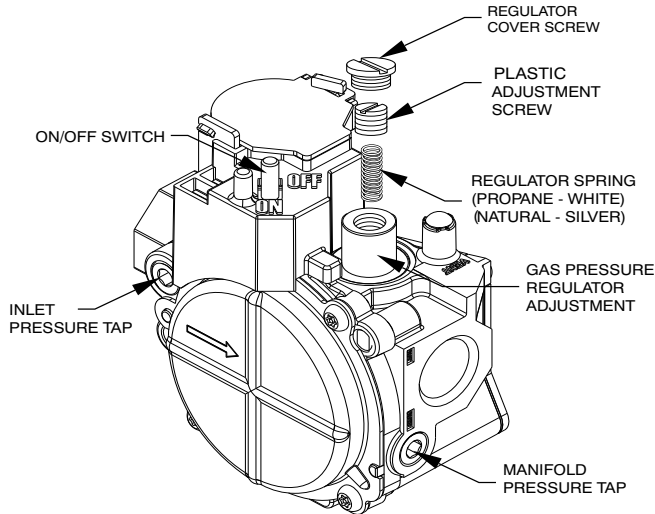

Fig. 12 – Single-Stage Gas Valve
1. Remove regulator cover screw over plastic adjustment screw on gas valve (See Fig. 12).
2. Turn plastic adjustment screw clockwise to increase gas input, or turn plastic adjustment screw counterclockwise to decrease input (See Fig. 12). Manifold pressure must be between 3.2 and 3.8 IN. W.C.
3. Replace regulator cover screw on gas valve (See Fig. 12).
With control access panel (see Fig. 18) removed, observe the unit heating operation. Watch the burner flames to see if they are light blue and soft in appearance, and that the flames are approximately the same for each burner. Propane will have blue flame (See Fig. 12). Refer to the Maintenance section for information on burner removal.